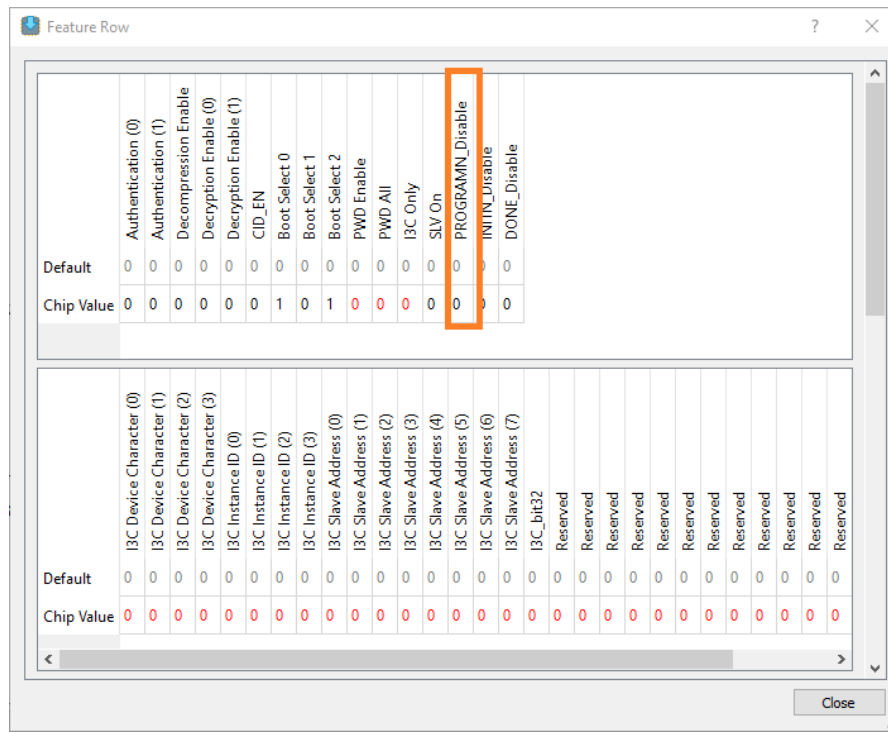

Figure 2.8. Current Bit Value
- Select the feature row bit to toggle the value as shown in Figure 2.8. User can double-check if the feature row has been updated using the *Read Feature Row* operation.